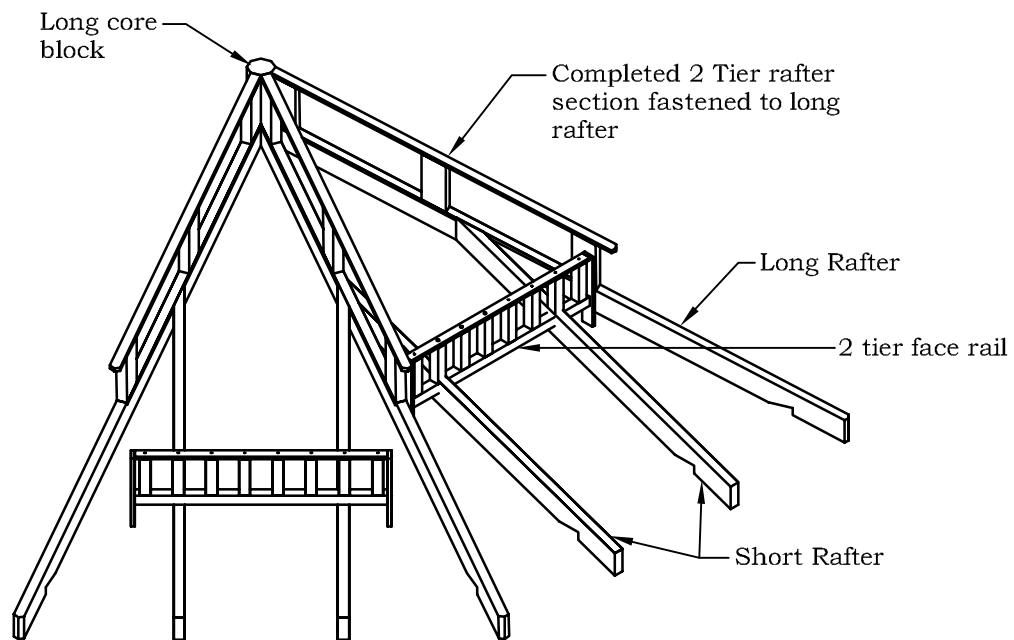

FIGURE S20
- Using your stepladder attach the Two Tier Rafter section on the Long Rafter by screwing right through the Bottom Rafter onto the Long Rafter. Use three 3" screws for this step. Take the remaining 5 Two Tier Rafter sections and systematically attach each to a Long Roof Rafter and the Long Core Block. The Long core block will sit directly over the top of the Short Core Block. See Figure S20.
- Insert the Face Rails from above so that each Face Rail is Flush with the front of the Two Tier Rafter Supports. Using two 2" screws attach each Rail Support Post to the Two Tier Rafter Supports. See Figure S20 for details. Also, insert a screw through the Long Support Post into the Long Rafter.